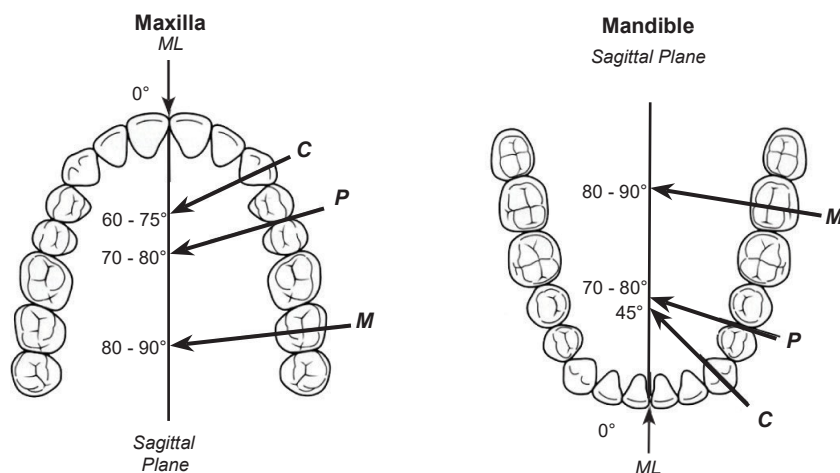

Figure 17. Horizontal Angulation
- ☐ The horizontal angulation of the cone should also be maintained to achieve perpendicularity with respect to the teeth as shown by Figure 17 below.
2. Introduce the receptor into the patient's mouth according to the chosen technique as shown by Figures 17 and 18 (bisecting or parallel - Page 27, 28).